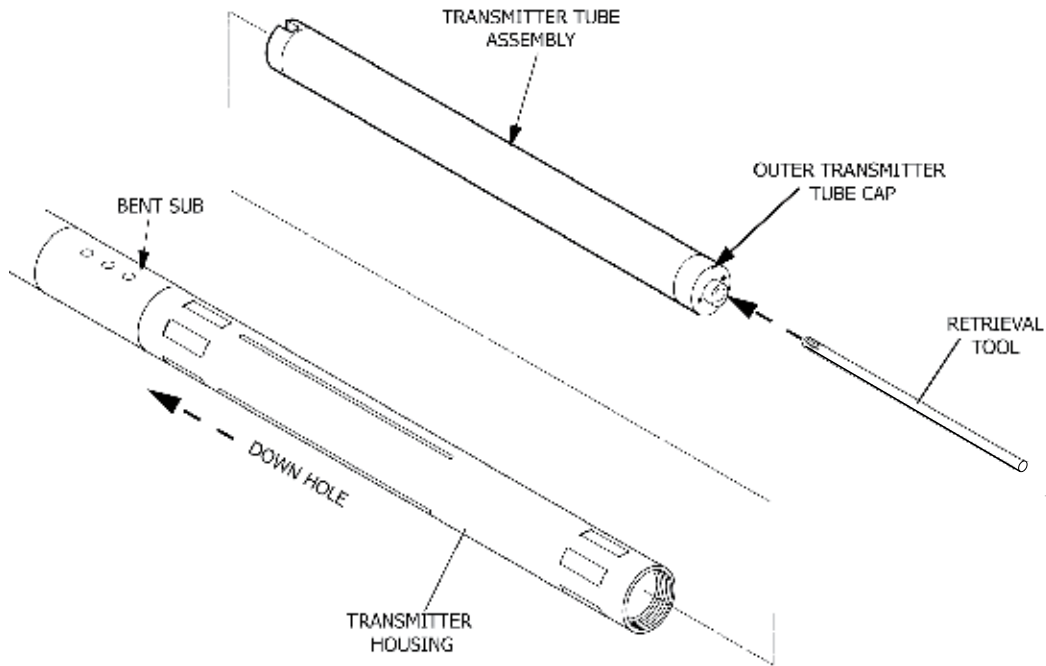

Fig. 23
6. Thread the retrieval tool into the outer transmitter tube cap and insert the transmitter tube assembly into the transmitter housing (see Fig. 23).